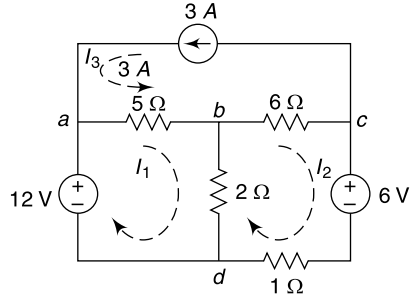

Fig. 4.49 Circuit of Ex. 4.34
4.34 Find the current through the resistors using mesh method for the network shown in Fig. 4.49.
Let us first draw the loop currents in the network of Fig. 4.49. The loop currents are shown by dotted arrows. It may be noted that due to presence of current source of 3 A, the corresponding loop current I_3 is 3 A.